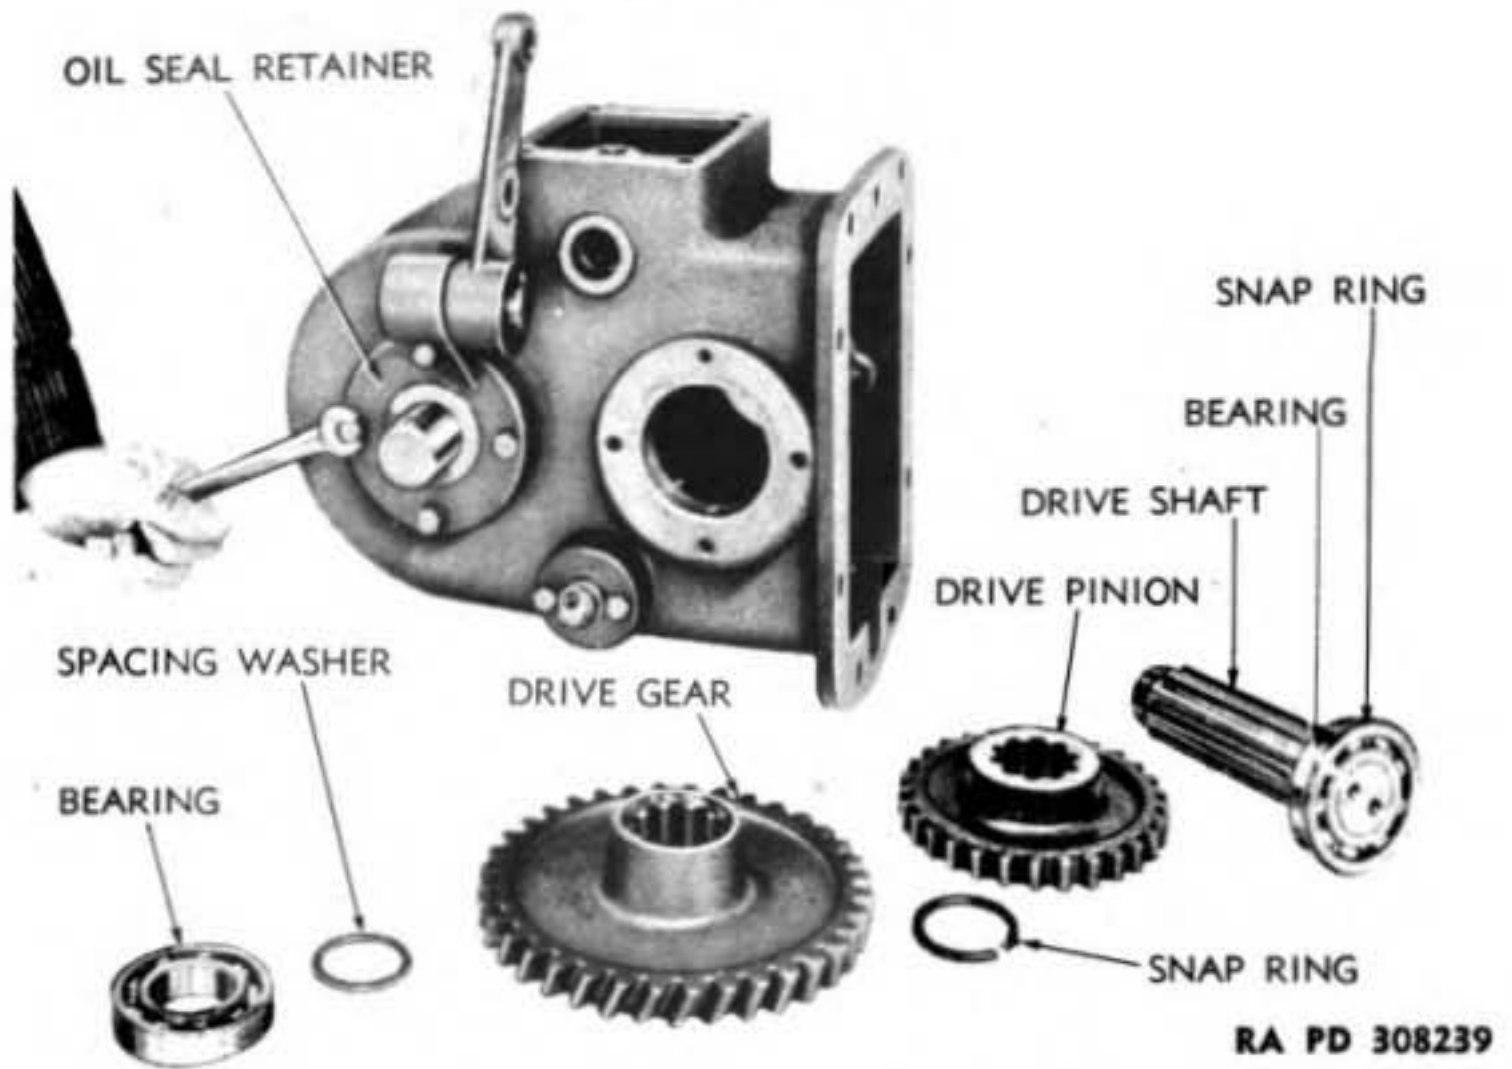

Figure 137 – Removing Oil Seal Retainer
c. **Remove Driven Shaft and Gears.** Remove front and rear driven shaft bearing retainers by removing four cap screws from each (fig. 137). Using brass drift bar, drive shaft toward rear of case until bearings are driven out of case. Hold gears flat against rear of case, and drive shaft out of front bearing, spacer washer, and gears. Lift these parts from case as they are freed by shaft. Press rear bearing from shaft and remove snap ring. Inspect oil seal in retainer. If it is to be replaced, drive it out of retainer with punch and hammer. If removed, a new seal must be installed as old one will be spoiled in removal.
b. Install Driven Shaft and Gears. Press bearing onto long end of shaft against shoulder and install snap ring in groove in splines of shaft (fig. 138). Insert splined end of shaft through rear side of case and slide 35-toothed reverse gear, then 38-toothed gear, onto shaft. Insert shaft on through case, tapping bearing on shaft into bore in case. Press oil seal into oil seal retainer with lip of seal facing inner side of retainer. Using new gasket, slide retainer over shaft and secure to case with four cap screws with lock washers (fig. 137). Slide spacing washer onto front end of shaft, then drive or press front bearing onto shaft and into case. Use new gasket and install bearing cap with four cap screws with lock washers.
c. Install Drive Shaft and Gears. Install snap ring on front bearing (groove in outer race). Press this bearing onto end of drive shaft that has two holes in it (fig. 137). Install end washer on end of shaft with two cap screws and nut lock (fig. 135). Insert other end of shaft through front of case and slide 29-toothed drive pinion (shifter collar end first) onto shaft. Install snap ring in groove in splines of shaft, then slide 36-toothed drive gear (long end of hub first) onto shaft against snap ring. Tap front bearing into case, then slide spacing washer on rear end of shaft and install rear bearing in case over end of shaft. Bend ends of nut lock against sides of cap screw heads (fig. 135), then install bearing cover with new gasket on front of case with four cap screws with lock washers (fig. 134).